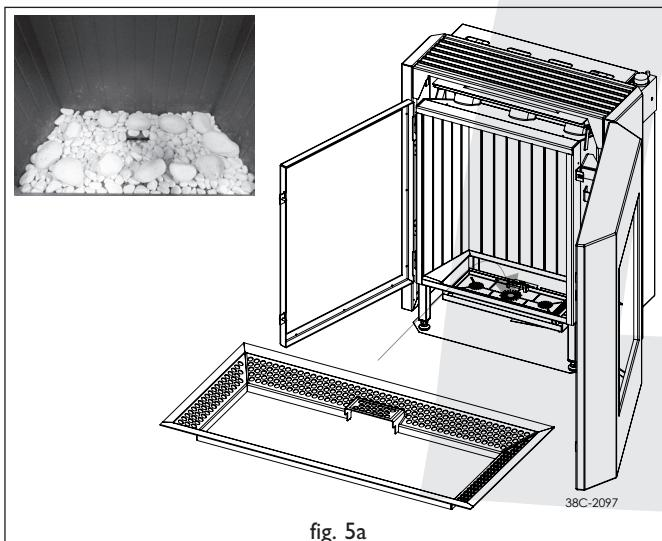

fig. 5a
- Place the rack, see Photo (fig. 5a);